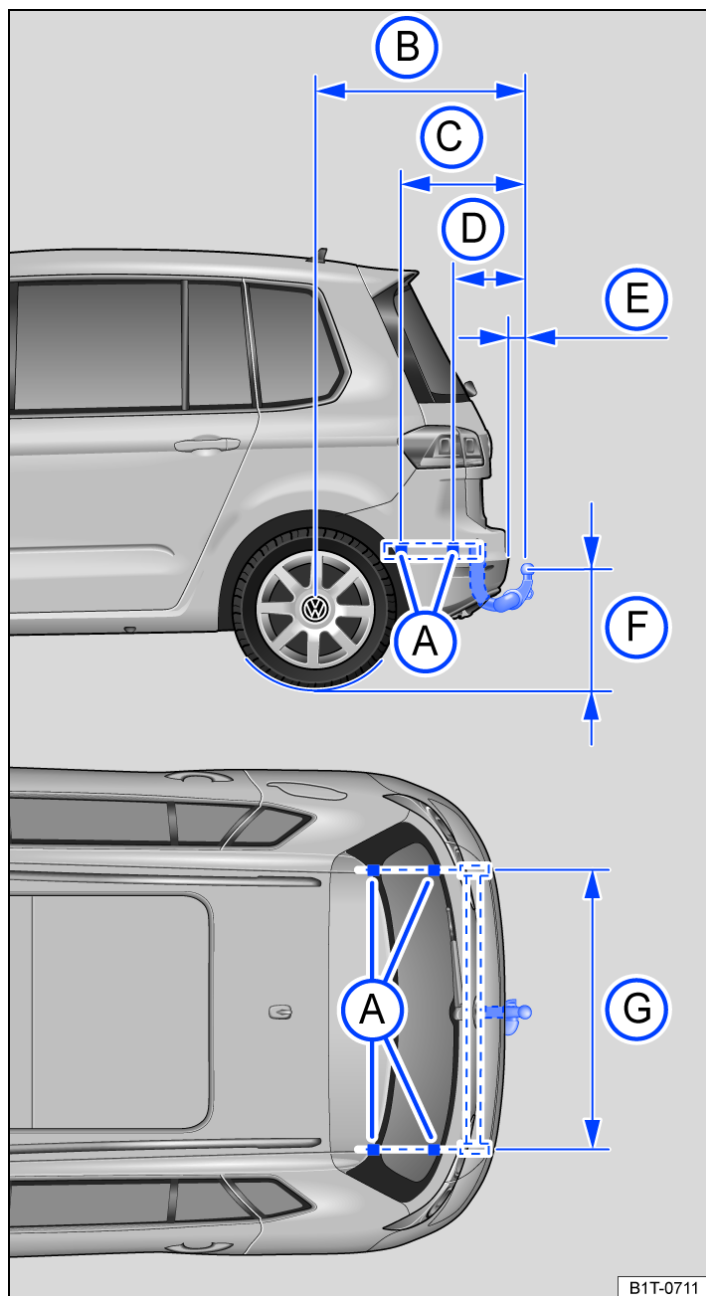

Fig. 1 Dimensions and mounting points for retrofitting a towing bracket.
The dimensions → Fig. 1 must be adhered to when retrofitting a towing bracket. Always observe the minimum distance given from the middle of the ball coupling (F) to the surface of the road. This also applies when the vehicle is fully laden, including maximum drawbar load.
- (A) Mounting points
- (B) 959 mm
- (C) 560 mm
- (D) 340 mm
- (E) At least 65 mm
- (F) 350 - 420 mm
- (G) 1066 mm